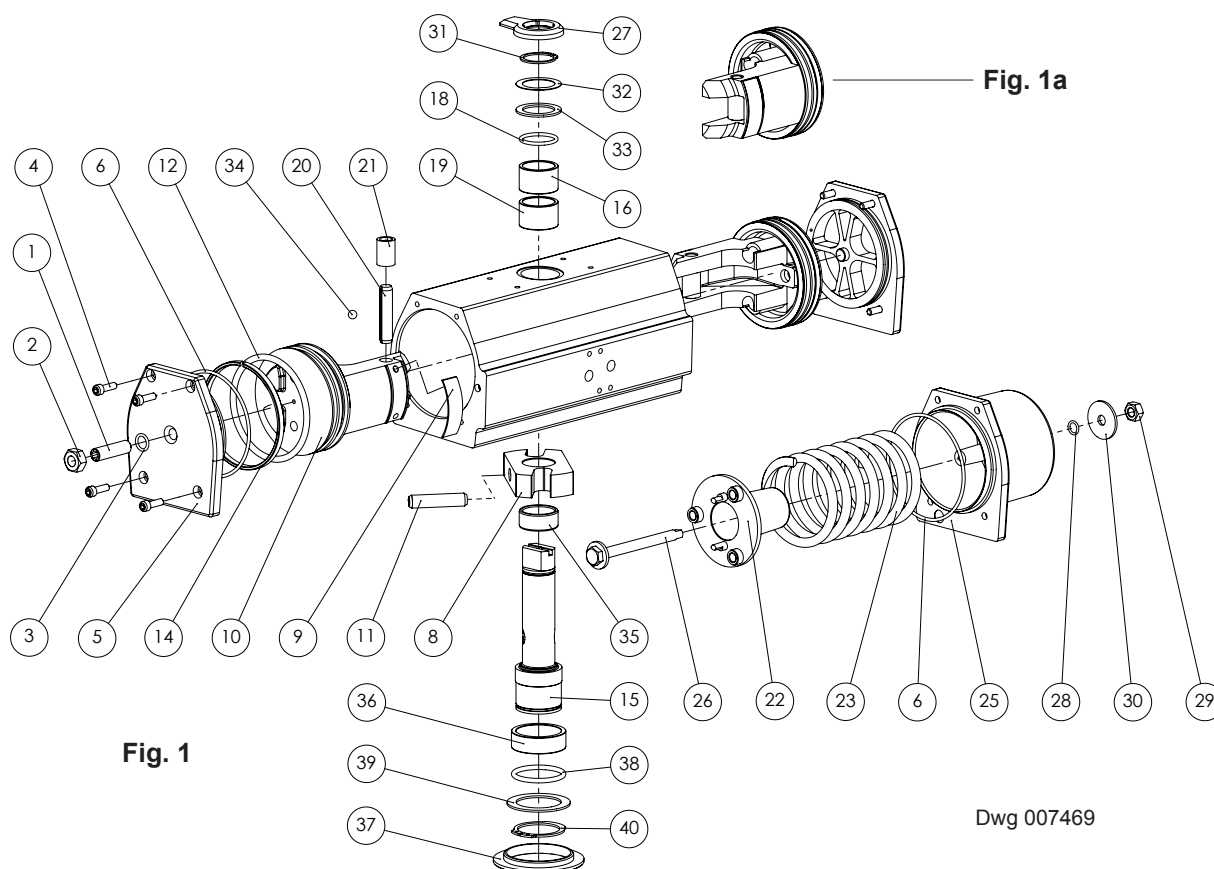

Fig. 1
The Scotch Yoke of the RC200 actuators has canted slots. Thus the actuator can be given different function depending on how the pistons are mounted in the actuator. The pistons are mounted according to Fig.1, page 2, or Fig.1a, in order to achieve the following functions.
According to Fig.1:
4. Mount the pistons according to figure 1 on page 2.